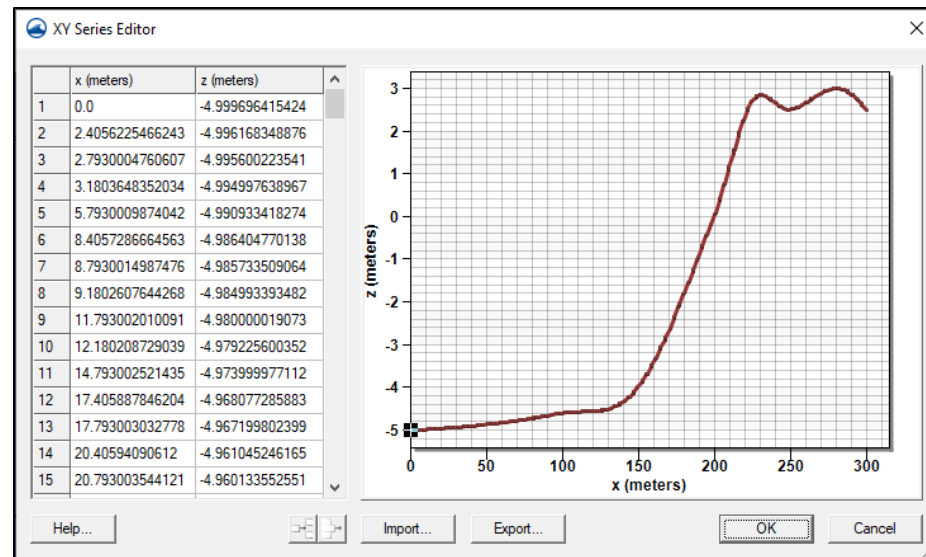

Figure 13 The XY Series Editor dialog showing information from one transect
2. Using the **Select Feature Arc**  tool, right-click on one of the transect arcs and select **Arc Attributes...** to bring up the *XY Series Editor* dialog (Figure 13).